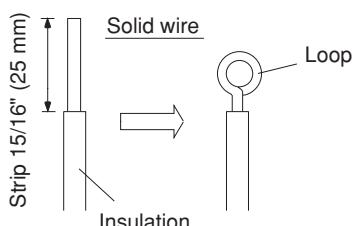

Fig. 10
- (1) Cut the wire end with a cutting pliers, then strip the insulation to expose the solid wire about $15/16"$ (25 mm). (Fig. 10)
- (2) Using a screwdriver, remove the terminal screw(s) on the terminal plate.
- (3) Using the pliers, bend the solid wire to form a loop suitable for the terminal screw.
- (4) Shape the loop wire properly, place it on the terminal plate and fix it securely with the removed terminal screw using a screwdriver.